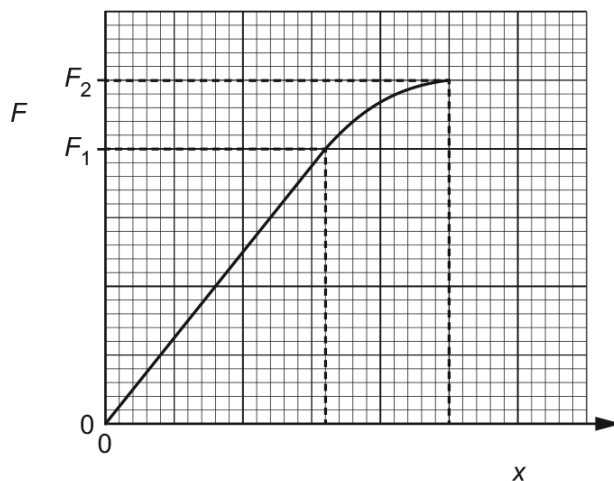

Fig. 4.2
- (iii) Another student repeats the original experiment in **(b)(i)**, increasing the force beyond F_1 to a new maximum force F_2 . The new graph obtained is shown in Fig. 4.2.
1. On Fig. 4.2, shade an area that represents the work done to extend the wire when the force is increased from F_1 to F_2 . [1]